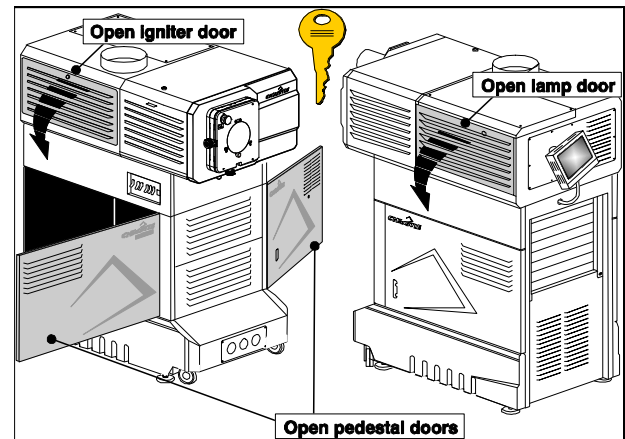
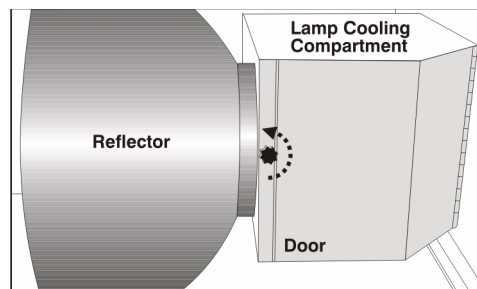

Figure 3-5 Open Projector for Access
Figure 3-10 Accessing Cathode End
- a. Open both pedestal doors (Figure 3-5).
5. With the lamp door removed (refer back to **Figure 3-5**), turn the small knob and swing open the lamp cooling compartment door (**Figure 3-10**).